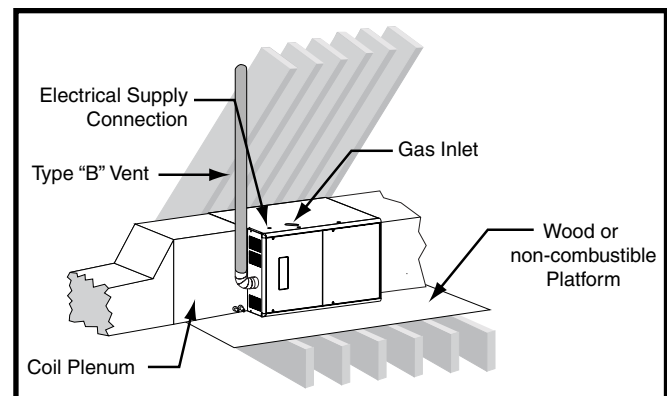
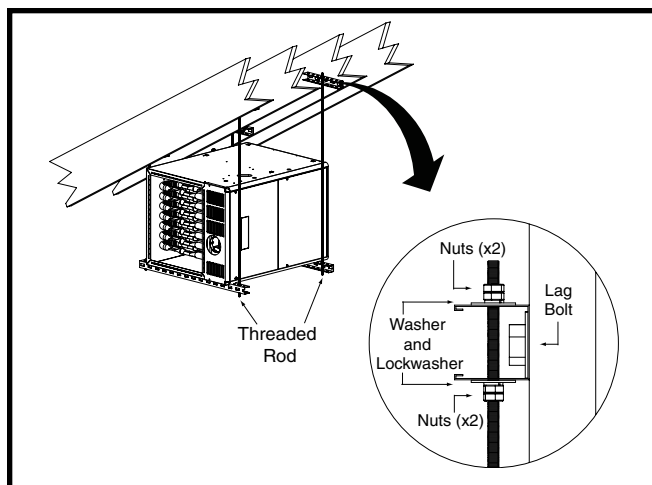

Figure 7. *SA Horizontal Installed on a Platform
Figure 8. *SA Horizontally Suspended in Attic
- The *SA series gas furnace can be installed horizontally (Figure 7) in an attic, basement, crawl space or alcove. It can also be suspended from a ceiling in a basement or utility room in either a right to left airflow or left to right airflow as shown in Figure 8, \(page 14\).
- If installing the furnace with an evaporator coil (in an attic), it is required that a drip pan be placed under the furnace. If the installation is on a combustible platform (Figure 7), it is recommended that the drip pan extend at least 12 inches past the top and front of the furnace. **NOTE:** Although it is not required to use a drip pan for heat only applications, state and local codes may require it.
- If suspending the furnace from the ceiling, assemble a support frame (Figure 8) using slotted iron channel and full threaded rod. Fasten the frame together with nuts, washers, and lockwashers. Secure the support frame to the rafters with lag bolts. The furnace can also be suspended using steel straps around each end of the furnace. The straps should be attached to the furnace with sheet metal screws and to the rafters with bolts.